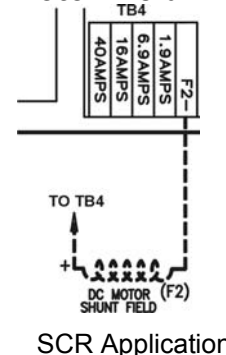

Figure 3-8
- 3) The third circuit is to bring power to the Motor Fields (if a DC motor is used). These 2 wires can be run with the motor wires. [See Figure 3-8.]